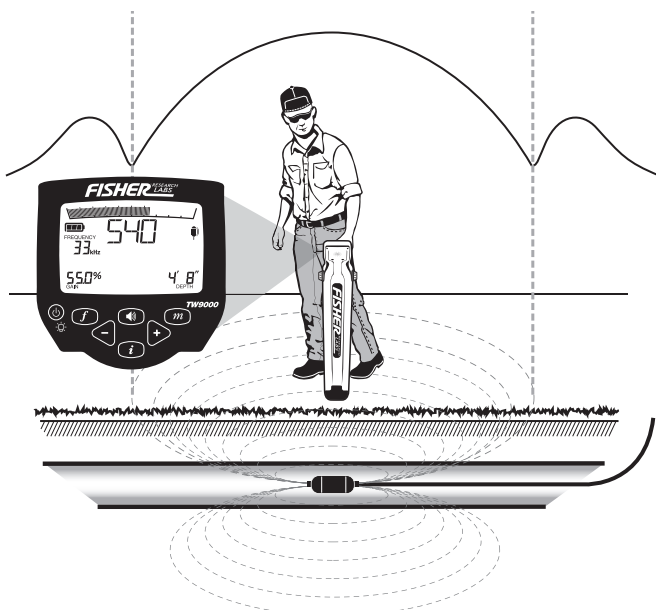

Figure 18. Sonde Signal Strength Response
STEP 8. Determine the location of the Sonde. See Figure 18 on page 45.